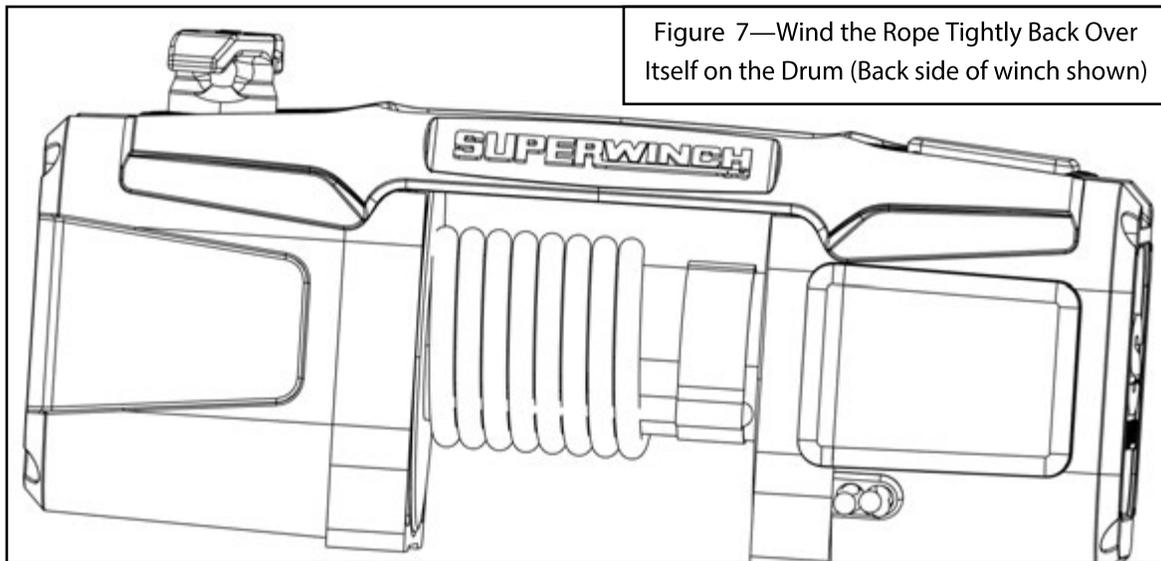

Figure 7—Wind the Rope Tightly Back Over Itself on the Drum (Back side of winch shown)
8. Once the first few wraps of rope have been unwound onto the drum spool the rest of the rope onto the drum under load to ensure that the rope is tight to the drum. This can be accomplished by hooking the rope to an anchor point then winching in with the vehicle in neutral and light pressure on the vehicle's brake. See Figure 7.